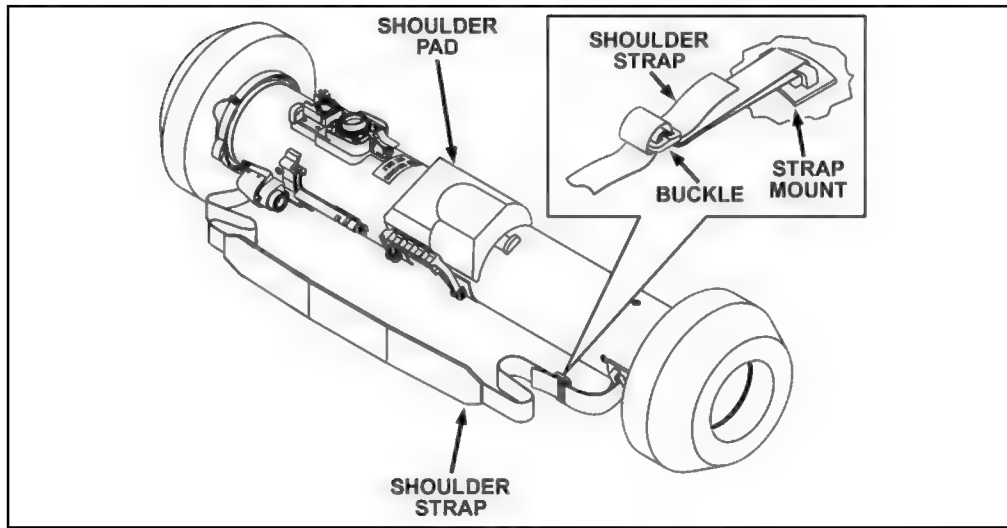

Figure 1-17. Shoulder strap and pad.
e. **Shoulder Strap.** The adjustable shoulder strap (Figure 1-17, page 1-12) provides a means for carrying the round.
f. **Shoulder Pad.** The shoulder pad (Figure 1-17) provides balance and support when the round is placed on the gunner's shoulder.